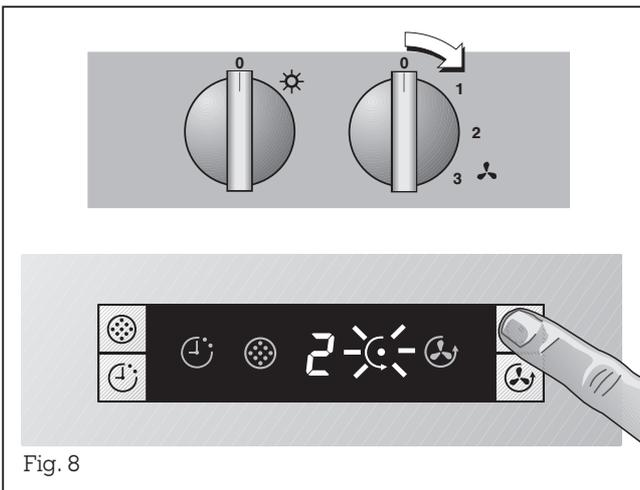

Fig. 8
- The level you have set and the Coanda level symbol appear on the display (Fig. 8).